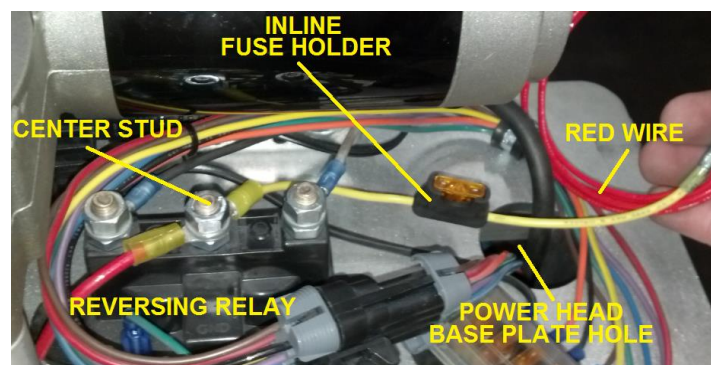
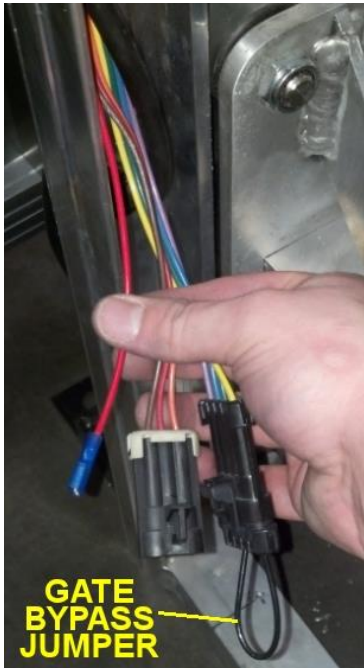

FIG. 11.6
FIG. 11.7
7. Install $\frac{5}{16}$ " ring terminal on yellow wire with inline fuse holder over center stud. Replace nut, tighten securely. (FIG. 11.6).
- Route the red wire (attached to yellow fuse wire in FIG. 11.6) down through the cable access port (FIG. 5.6) and run parallel to the AC power cord down right side of lift tower behind wire hold-downs. (FIG. 5.7, 11.6). String red wire down to match the length of the other two plugs (FIG. 11.7).
- Locate the 4-pin female connector on end of the rainbow ribbon cable near base of tower and remove the gate bypass jumper (FIG. 11.7). Connect the 4-pin male connector end of 14' SOOW cord to this plug and join the single red wires with the attached 1/4" male and female spade connectors (FIG. 11.8). Route cord out through notch in rear tower cover panel. (FIG. 11.8a).